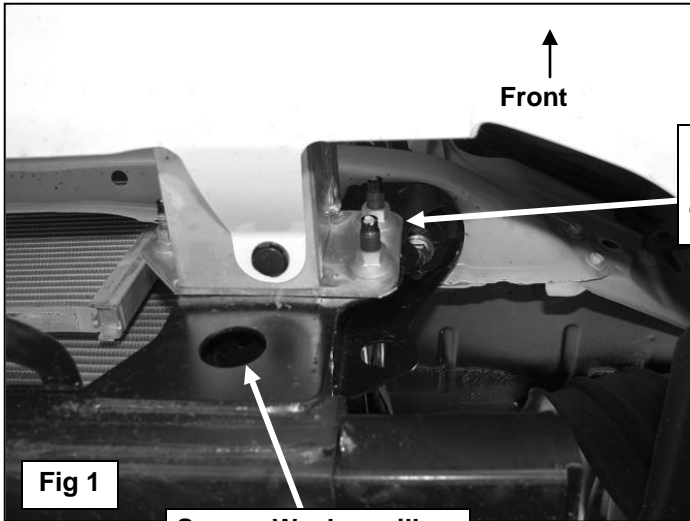
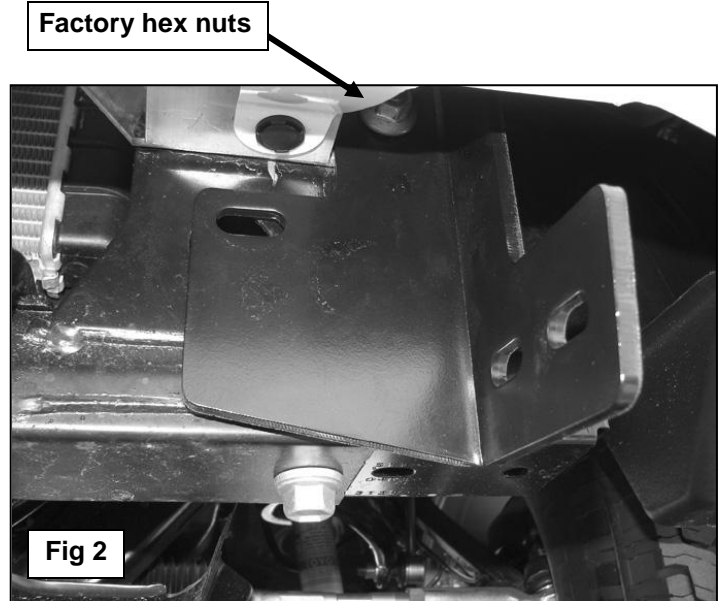

Fig 1
Fig 2
- Start installation at the driver side, front of the vehicle and remove the (2) factory bumper mount hex nuts located toward the outside of the bumper mount and frame channel, **(Figures 1 & 7)**. **NOTE:** It may be necessary to remove the factory tow hook from the passenger side. Select the driver side frame mounting bracket and hang it from the (2) threaded studs. Secure the Bracket to the (2) threaded studs with the (2) factory hex nuts, **(Figures 2 & 7)**. Do not tighten hardware at this time.